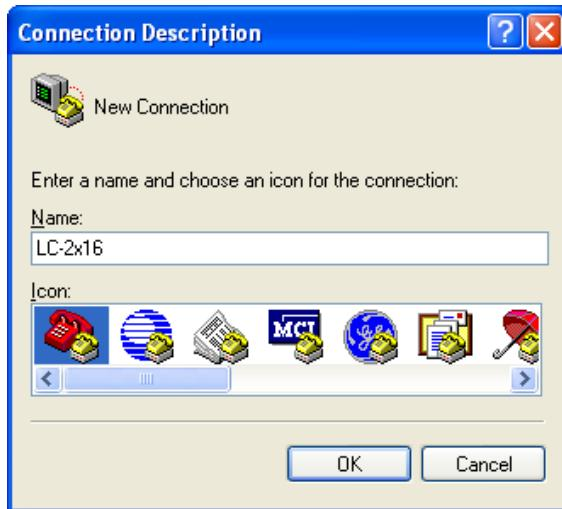

Figure 18 - HyperTerminal Connection Description
2. Enter a name for the New Connection and click OK (see Figure 18):
1. Enter a name for the New Connection – Select OK (see Figure 18, HyperTerminal Connection Description).